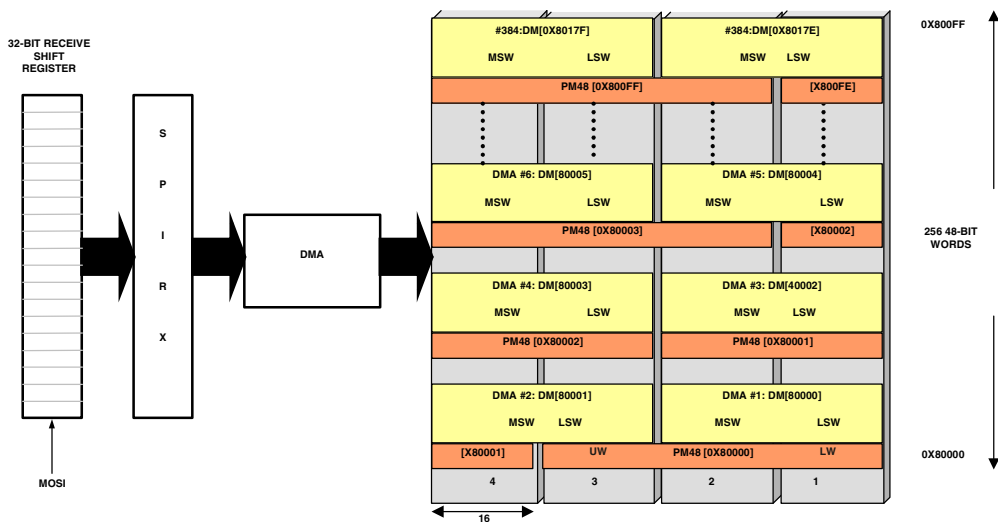
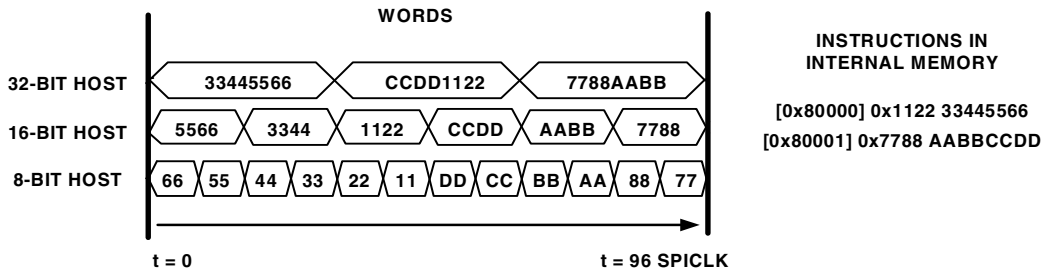

Figure 15-7. SPI Data Packing
Figure 15-8. Instruction Packing for Different Hosts
to 32 bits. Therefore, for 8 or 16-bit devices, data words are packed into the Shift register to generate 32-bit words least significant bit (LSB) first, which are then shifted into internal memory. The relationship between the 32-bit words received into the `RXSPI` register and the instructions that need to be placed in internal memory is shown in Figure 15-7.
Figure 15-8 shows how a pair of instructions are packed for SPI booting using a 32-, 16-, and an 8-bit device. These two instructions are received as three 32-bit words as illustrated in Figure 15-7.
2. Writing the read command `0x03` and address `0x00` to the slave device as shown in Figure 15-8.